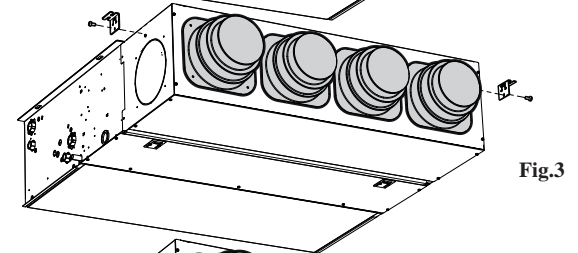

Fig.3
- Install the two fixing brackets in the appropriate side slots and fasten them using the two screws provided (fig.3)
- The filter remains in its original position and can be extracted for routine maintenance/replacement (fig.3).